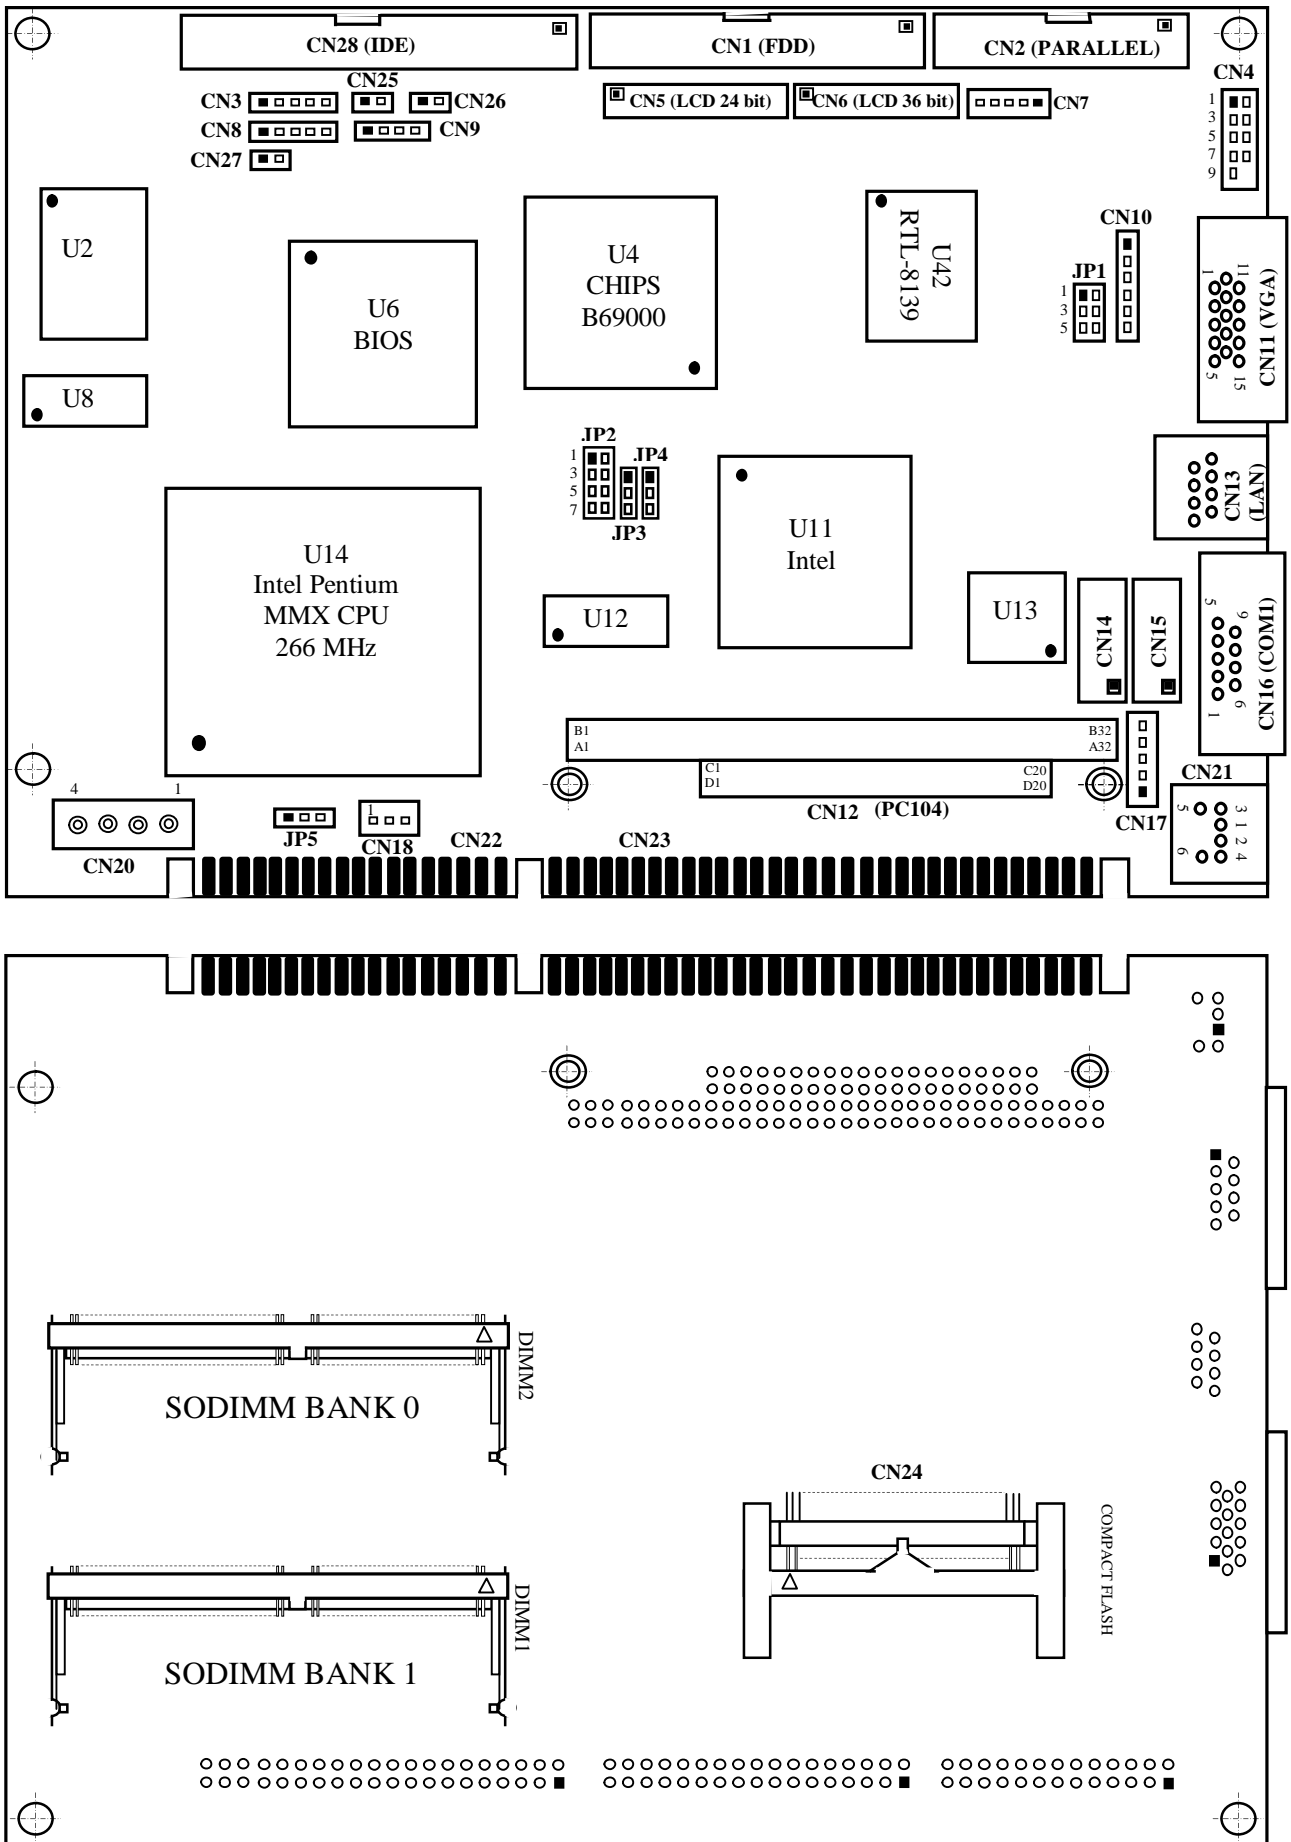

Figure A.1 – Arrangement of Connectors and Jumpers of the PCA-6751 CPU Board
11.1.1.1 The arrangement of connectors, jumpers and electronic components of the **CPU card** NC210-21 type **PCA-6751** is presented in Figure A.1. The marking given on the card is: «**JP**» – a jumper.